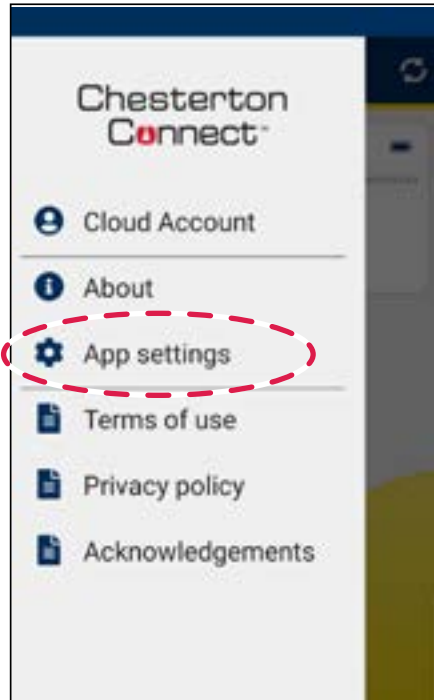

Figure 30
2. Select **App Settings** (see figure 30).